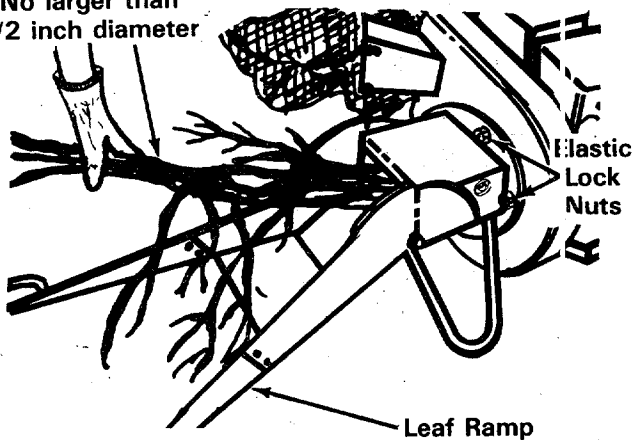

FIGURE 13.
Small branches can also be fed into the leaf ramp See figure 13.
3. Remove the four elastic lock nuts from the back of the housing using a 1/2" wrench. Refer to figure 13. Separate the shredder into two halves.